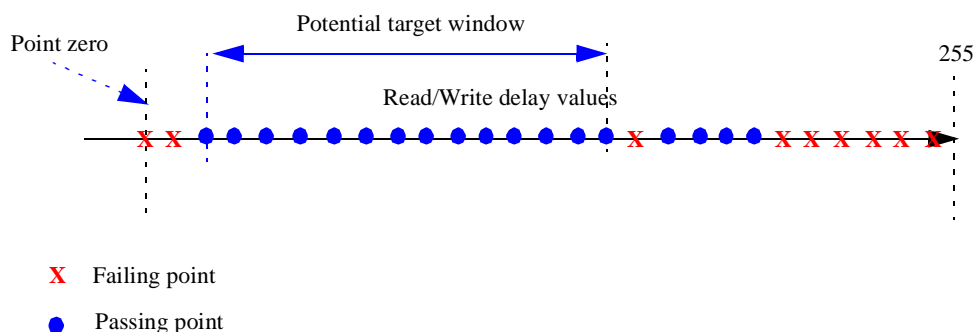

Figure 3. A Working Window
2. Search for a read window per DQS line—Starting with byte0 (for DQS0), for each read delay value of DLY\_ABS\_OFFSET\_1, search for at least one working write delay value. If no working write delay value is found, then that value of DLY\_ABS\_OFFSET\_1 cannot be part of the window. The procedure stated above is done as follows. For each value of DLY\_ABS\_OFFSET\_1, starting from point zero, increase the value by 5 units each time (this saves time by not going through all values, but still provides good resolution) until it reaches the maximum value (255). While increasing, search for at least one working write value. For each set of values, invoke the typical check function with selection of byte0. The result is the read window that is used to find the write delay values in step 6. See Figure 3 for information on how a window is defined.
A target window is found by using the typical check function on the working window, which consists of large number of successful consecutive delay values as shown in Figure 3. This window is used as the target to be checked by the aggressive check function (which finds the true window).